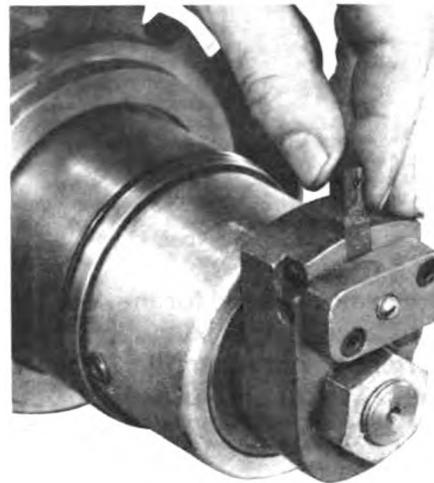

Fig. 1-24 (V10186). Install The Cutting Tool.
3. Install the cutting tool in the tool holder. Make sure the cutting tool is all the way in the tool holder, Fig. 1-24. Tighten the setscrews to hold the cutting tool.